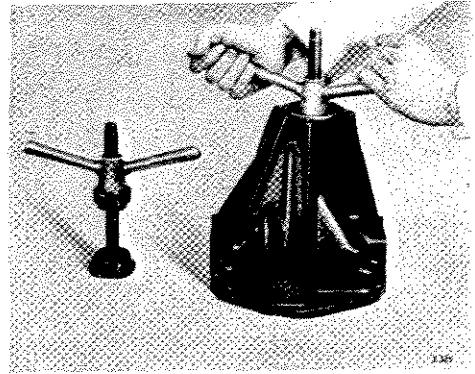

Fig. 77.
Using tool No. M.70, pull the pinion bearing outer races (cups) into the axle casing without the shims (59) fitted (Fig. 77).